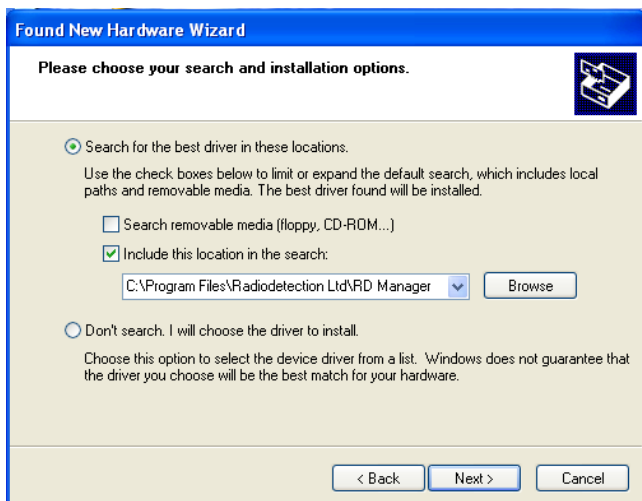

Figure 1.8 Found New Hardware Wizard
- Select **"Include this location in the search:"** while making sure the other option is deselected, figure 1.8.